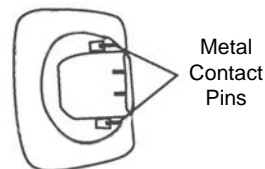
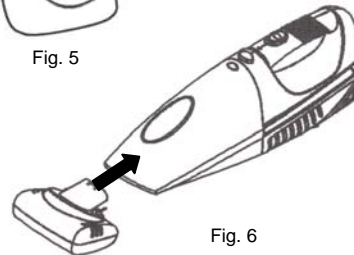

Fig. 5
Fig. 6
2. Firmly insert the motorized brush (Fig. 5) into the air-intake nozzle of the dust cup container ensuring that the contact pins are engaged in the connector slots of the unit. (Fig. 6)